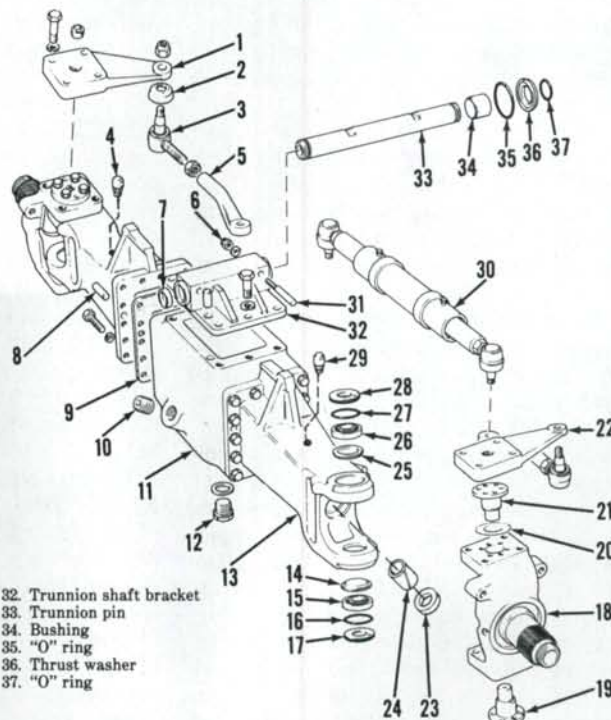

Fig. 6—Diagram showing correct dimensions for the placement of trunnion shaft bushings for models equipped with David Brown front drive axles.
9. RENEW TRUNNION SHAFT BUSHINGS. Remove axle assembly as outlined in paragraph 8. Remove the four trunnion shaft bushings (34—Fig. 5) using a suitable puller. Install bushings making certain grease hole in each bore is between the two bushings. Refer to Fig. 6 for correct bushing placement.